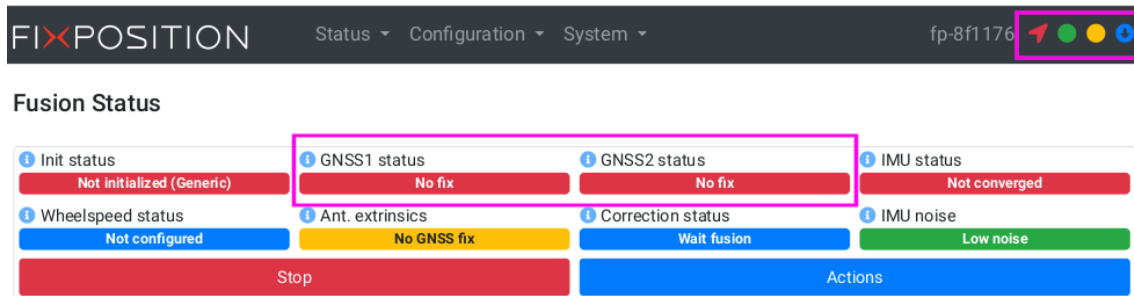

Figure 6.2.: Status badges and flags when Fusion is started
- Before Fusion is initialized, the GNSS flags on the top bar of the webinterface are represented by circles that display the GNSS receivers' status, see Fig. 6.2.